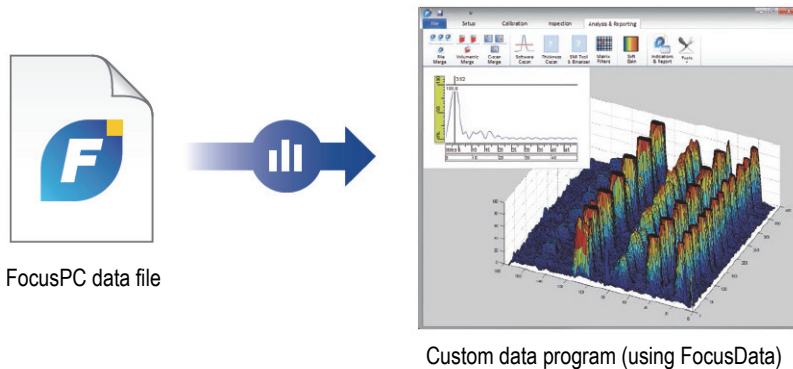

Figure i-5 Example of a custom data presentation using FocusData
- FocusData is another SDK, which also includes program samples and the full source code. FocusData lets you create custom programs that you can use to extract raw inspection data for custom data processing and presentation (Figure i-5 on page 16). For more details, see “FocusData SDK” on page 18.